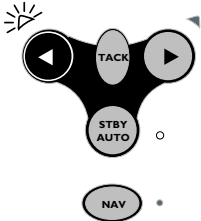

Fig 2.3 - Course adjustment to Port
- Press and hold either key and a 10° course adjustment will be made, confirmed by a double beep and a double flash of the Port or Starboard LED (Fig 2.3).